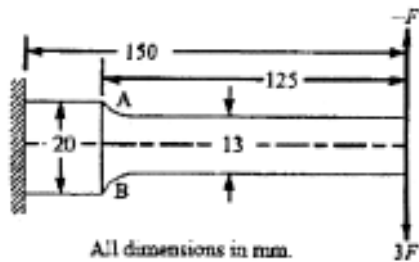

Fig. 1
- b) A cantilever beam (Fig. 1) made of cold drawn carbon steel of circular cross section is subjected to a load which varies from  $-F$  to  $3F$ . Determine the maximum load that this member can withstand for an indefinite life using factor of safety as 2. The theoretical stress concentration factor is 1.42 and notch sensitivity is 0.9. Consider ultimate stress 550 MPa, yield stress 470 MPa, Endurance limit 275 MPa, size factor 0.85, surface finish factor 0.89. **10**